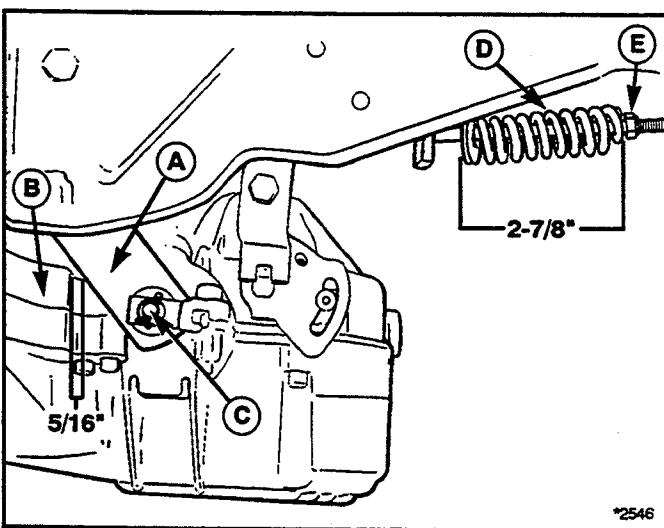

Figure 31. Brake Adjustment - Later Hydro Models
1. See figure 31. With parking brake released, rotate the brake cam (A) forward until it stops. There should be $5/16$ " gap between transaxle housing (B) and rear point of brake cam.
2. If adjustment is required, remove cotter pin and turn adjusting nut (C) until proper $5/16$ " clearance is achieved. Turning the nut in will decrease clearance and turning the nut out will increase clearance. Install cotter pin after adjustment.